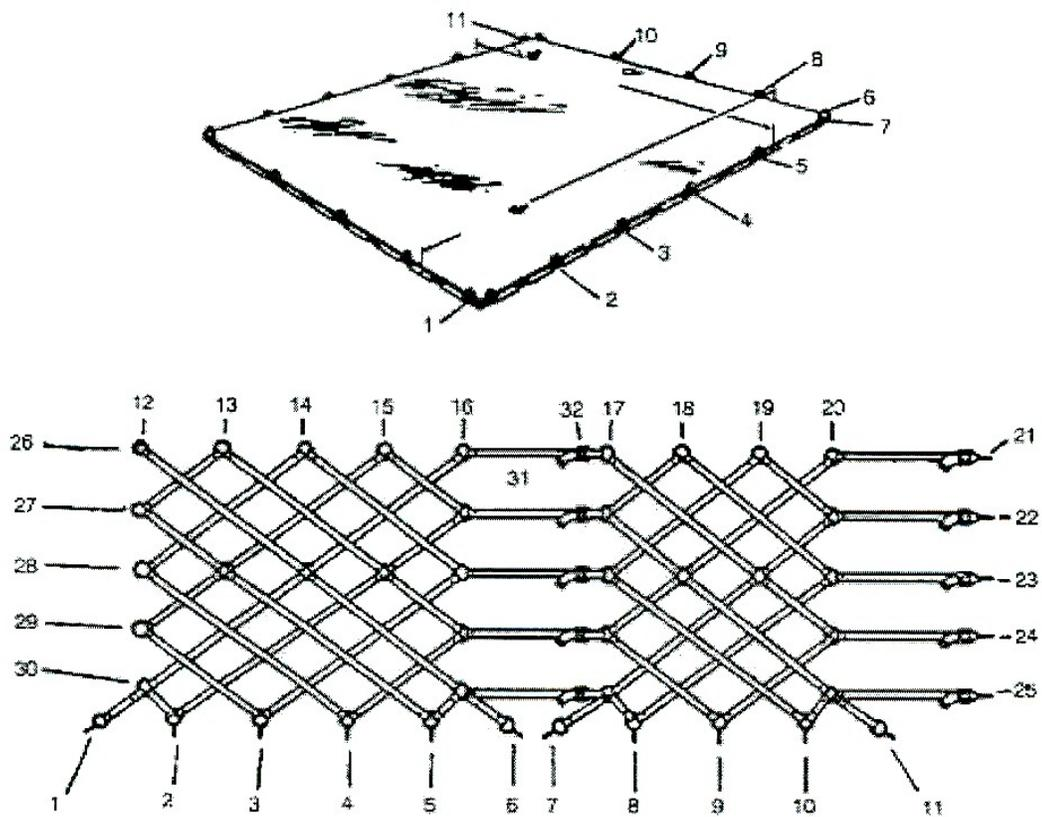

Figure 3-21
e. Begin with the left ring-side of the 463L pallet and work from left to right. Attach hook #1 on the side of the net to ring #1 on the pallet (see Figure 3-21).